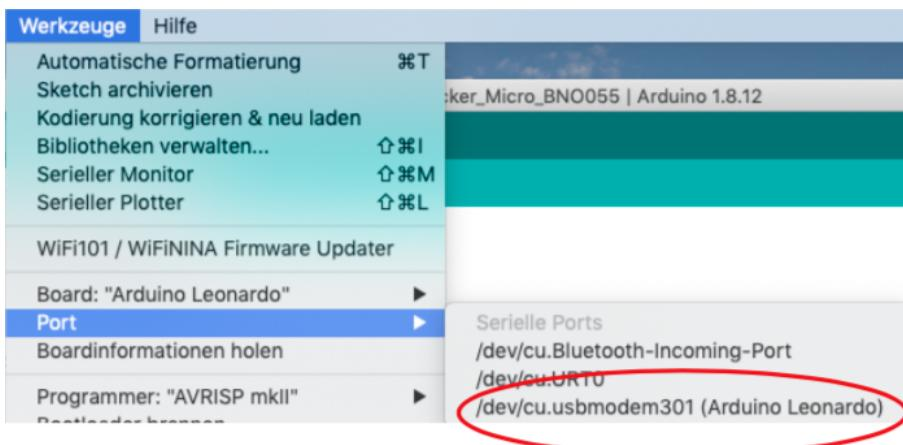

Figure 8: Port “(Arduino Leonardo)”
Step 9.4: Choose the belonging Port “(Arduino Leonardo)” in the tools section (Figure 8).